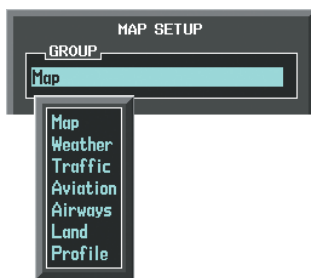

Figure 6-72 Navigation Map Page Setup Menu
- 4) Turn the small **FMS** Knob to select the 'Profile' Group and press the **ENT** Key (Figure 6-72).